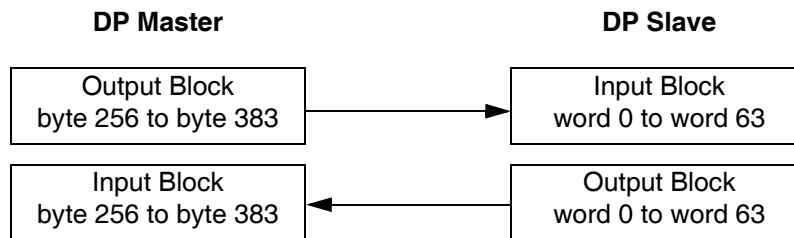

FIG. 49: Master/Slave Exchange
- This results in a range from word 0 to word 63. FIG. 49 illustrates this exchange.
NOTE: FIG. 49 has no connection with the Input Block and Output Block in Graco Gateway. The terminology used in the tags configuration is from the PLC point of view (DP Master). Refer to **Graco Gateway Setup** for more information.